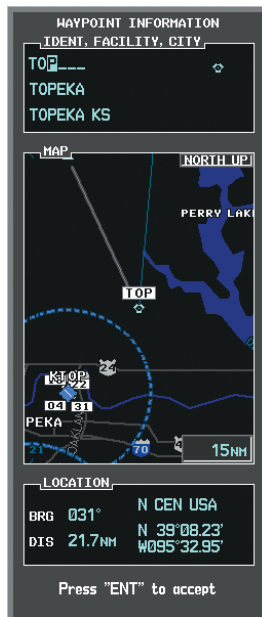

Figure 5-107 Entering V4 Entry Point
- c) Turn the small **FMS** Knob to display the Waypoint Information Window. Enter the desired entry point for V4, Topeka VOR (TOP), as shown in Figure 5-107.